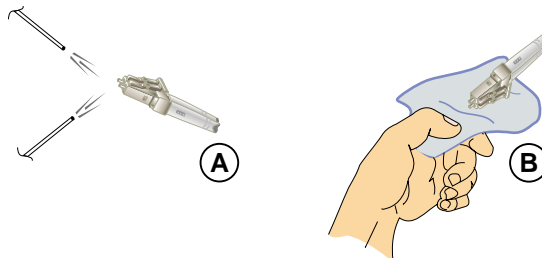

Figure 4-37 Clean Fiber-Optic Components
2. Disconnect the fiber-optic cable from the transceiver. Use compressed air to blow any contaminants from the connector as shown in part **A** of Figure 4-37.
3. Gently wipe the end-face and other surfaces of the connector with an alcohol pad as shown in part **B** of Figure 4-37 on page 4-54. Ensure the pad makes full contact with the surface to be cleaned. Wait approximately five seconds for cleaned surfaces to dry.